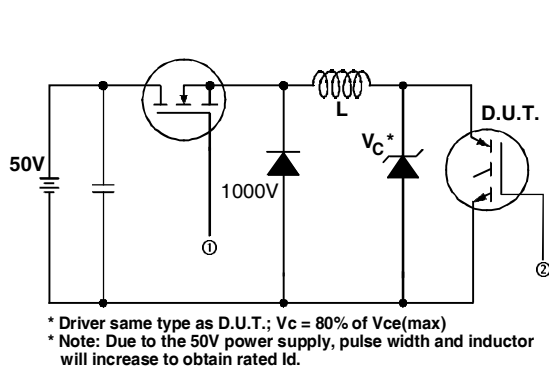

Fig. 13a - Clamped Inductive Load Test Circuit
- ② $V_{CC} = 80\%(V_{CES})$, $V_{GE} = 20V$, $L = 10\mu H$, $R_G = 23\Omega$, (See fig. 13a)
- ③ Repetitive rating; pulse width limited by maximum junction temperature.
- ④ Pulse width $\leq 80\mu s$; duty factor $\leq 0.1\%$.
- ⑤ Pulse width $5.0\mu s$, single shot.